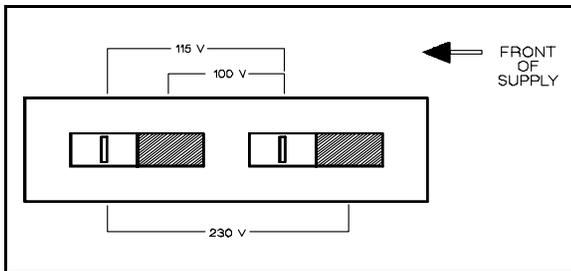

Figure A-2. Line Voltage Selector (set for 115 Vac)
- a. After making certain that the line cord is disconnected from a source of power, remove the top cover from the supply and set the two sections of the line voltage selector switch for the desired line voltage (see Figure A-2).